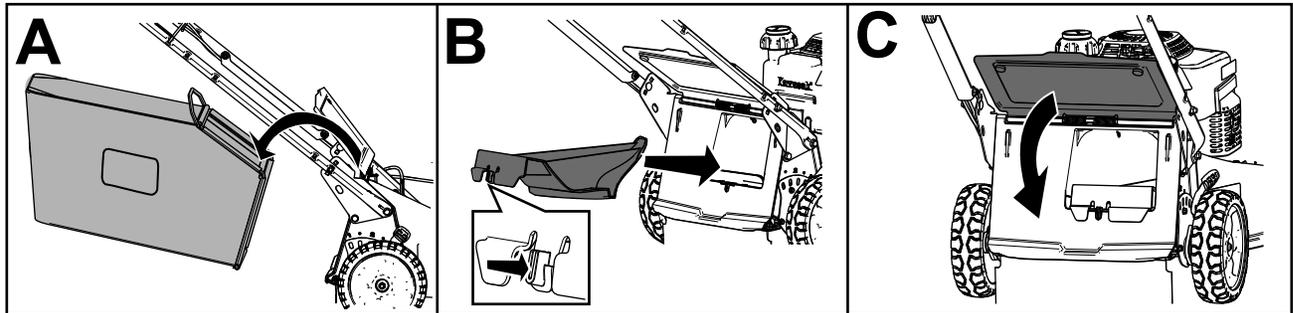

Figure 18
- If the grass bag is on the machine, remove it (A of Figure 18).
- If the rear-discharge plug is not installed, grip it by the handle, raise the rear deflector, and insert it into the rear-discharge chute until the latch locks into place (B of Figure 18).
3. Remove the bag rod on the grass bag from the notches at the base of the handle (A of Figure 18).
4. Install the discharge plug (B of Figure 18).
5. Lower the rear deflector (C of Figure 18).